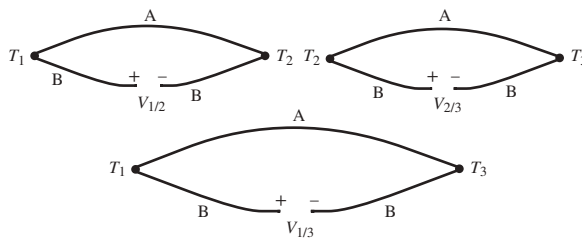

Figure 9.38 Law of intermediate temperatures.
4. *Law of intermediate temperatures.* Junction pairs at T_1 and T_3 produce the same voltage as two sets of junction pairs spanning the same temperature range (T_1 to T_2 and T_2 to T_3); therefore, as illustrated in Figure 9.38,